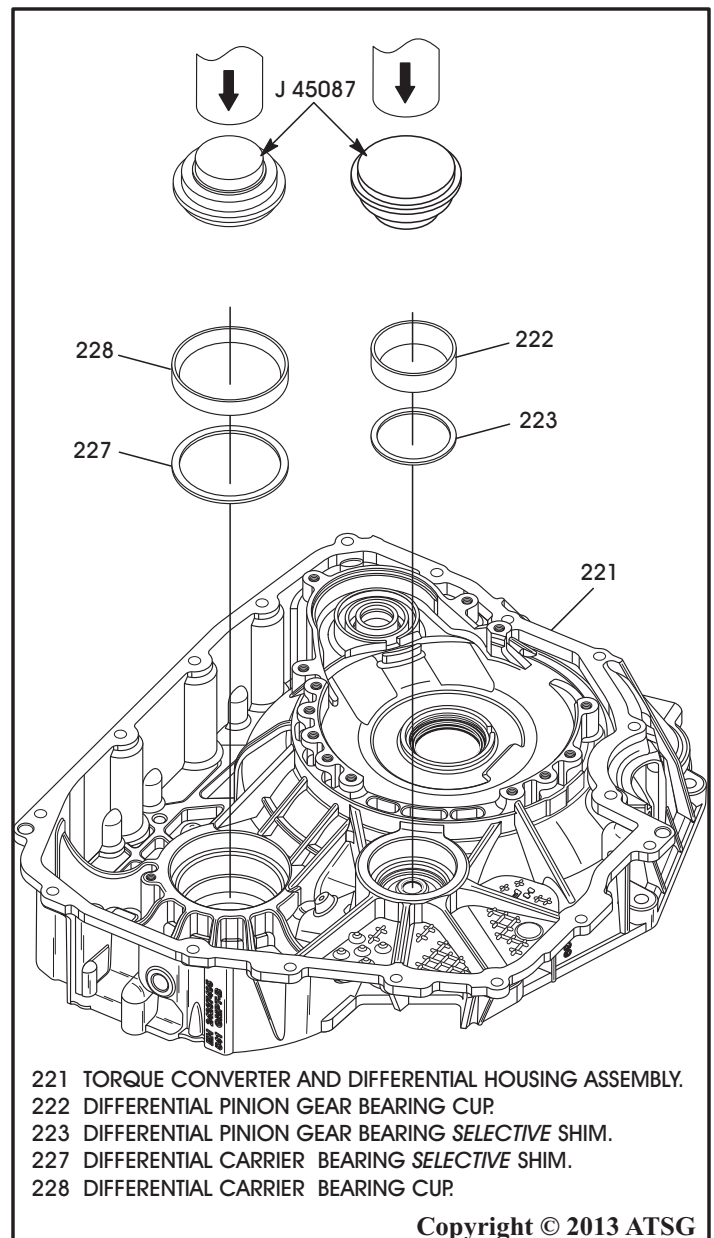

Figure 116
6. Install selective shim you selected from pre-load chart on Page 65, as shown in Figure 116, into differential pinion gear bearing cup bore.
7. Install new differential pinion gear bearing cup on top of installed shim, as shown in Figure 116, using J-45087 installer and hydraulic shop press.
8. Install selective shim you selected from pre-load chart on Page 65, as shown in Figure 116, into differential carrier bearing cup bore.
9. Install new differential carrier bearing cup on top of installed shim, as shown in Figure 116, using J-45087 installer and hydraulic shop press.